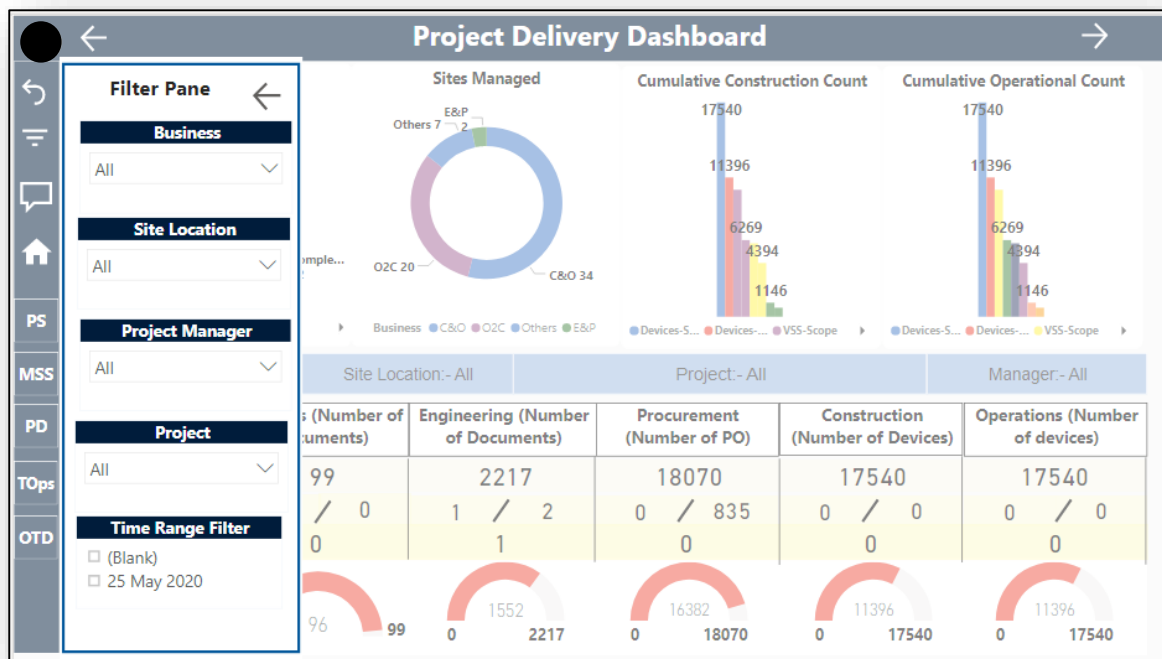

Figure 2 Panel for Filter Selection
- ii. Hamburger Icon: - This houses all the filters that can be applied to the data on the page. Figure 2 on the next page gives the preview of the same. The filters which can be applied are as follows:-